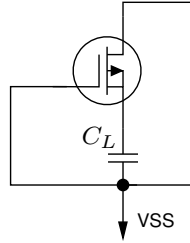

Figure 3: PMOSFET with grounded gate.
9. Consider the circuit in Figure 3. In the following circuit the capacitance of  $C_L$  is 50 fF.  $C_L$  is initially charged to 2.5 V. At time zero, its gate is attached ground, as shown in the figure.  $V_{TP} = -0.5$  V. You may ignore the effects of leakage.